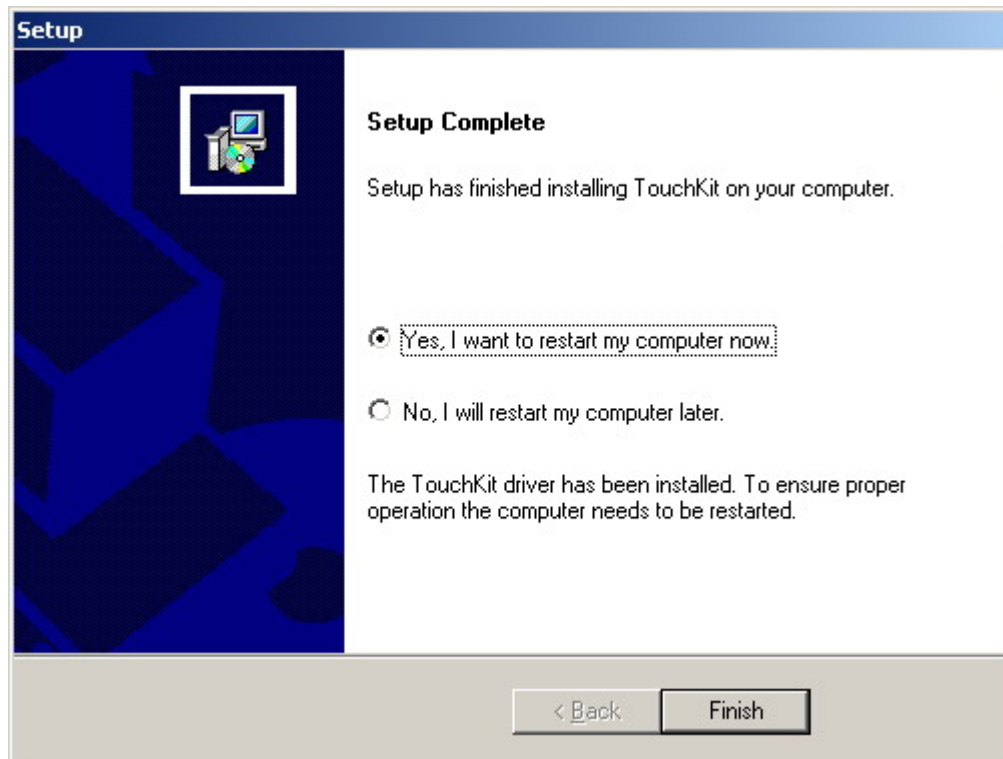

Figure 7-11: Installation Complete
Step 14: Once the program is finished installing, the user is prompted to restart the computer now or to restart the computer later (**Figure 7-11**). Select when the computer should be restarted and click "**FINISH**" to complete the driver installation procedure.